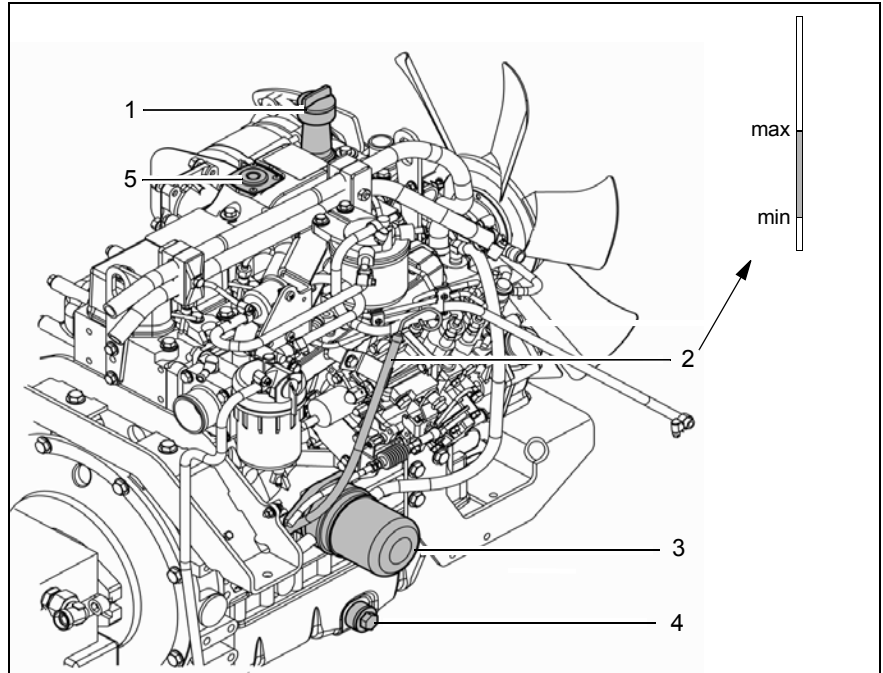

Fig.44
3. Check the engine oil level with the oil dipstick (Fig. 44/2).
2. Place a suitable container below the drainage plug (Fig. 44/4).
3. Remove the oil filler cap (Fig. 44/1) for venting the system.
5. Changing the engine oil filter (Fig. 44/3). Ensure that the sealing surfaces are kept clean and insert a new sealing ring.